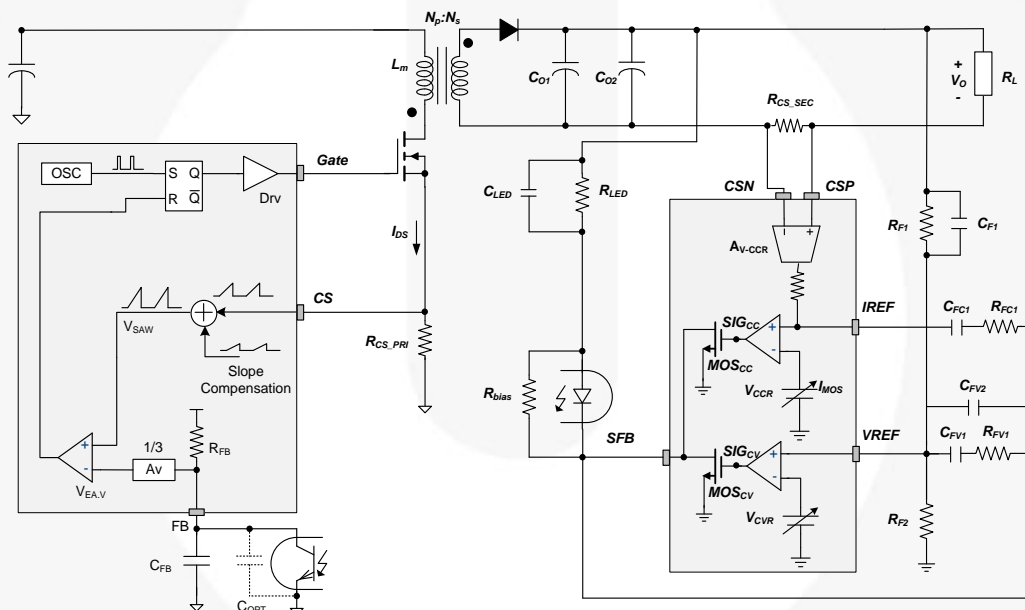

Figure 2. Internal PWM Control Circuit
Figure 2 shows the primary-side internal PWM control circuit of the FAN501AMPX and the secondary-side regulator circuit of the FAN6100M which consists of two MOSFETs in an open-drain configuration for Constant Voltage (CV) and Constant Current (CC) regulation.
While the primary MOSFET is turned on, the current  $I_{DS}$  through transformer magnetizing inductance rises.  $V_{CS}$  is the rising current signal through  $R_{CS-PRI}$ . This is added to slope compensation signal,  $V_{slope}$  to generate  $V_{SAW}$ .  $V_{EA}$  is compared to  $V_{SAW}$  to determine the duty cycle. As seen in, Figure 2 output of comparator is used as a reset signal of flip-flop to determine the MOSFET turn-off instant.